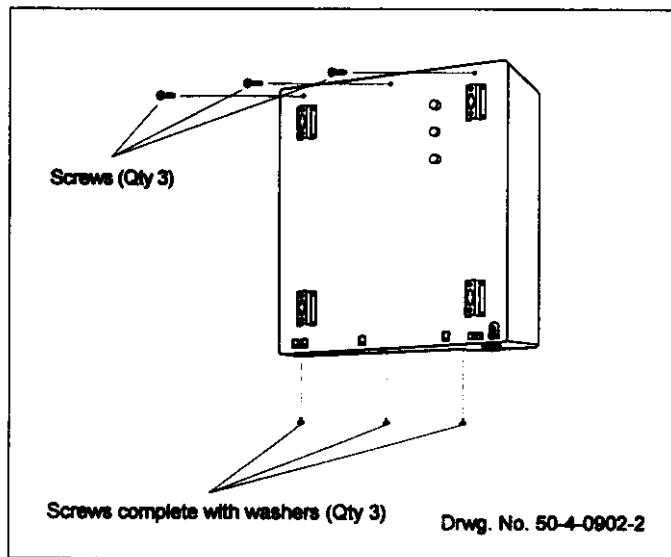

Figure 9.3: Wall Mount Cover Removal
- 2 Remove the three screws complete with washers at the bottom of the terminal (see Figure 9.3) and store them in a safe place.